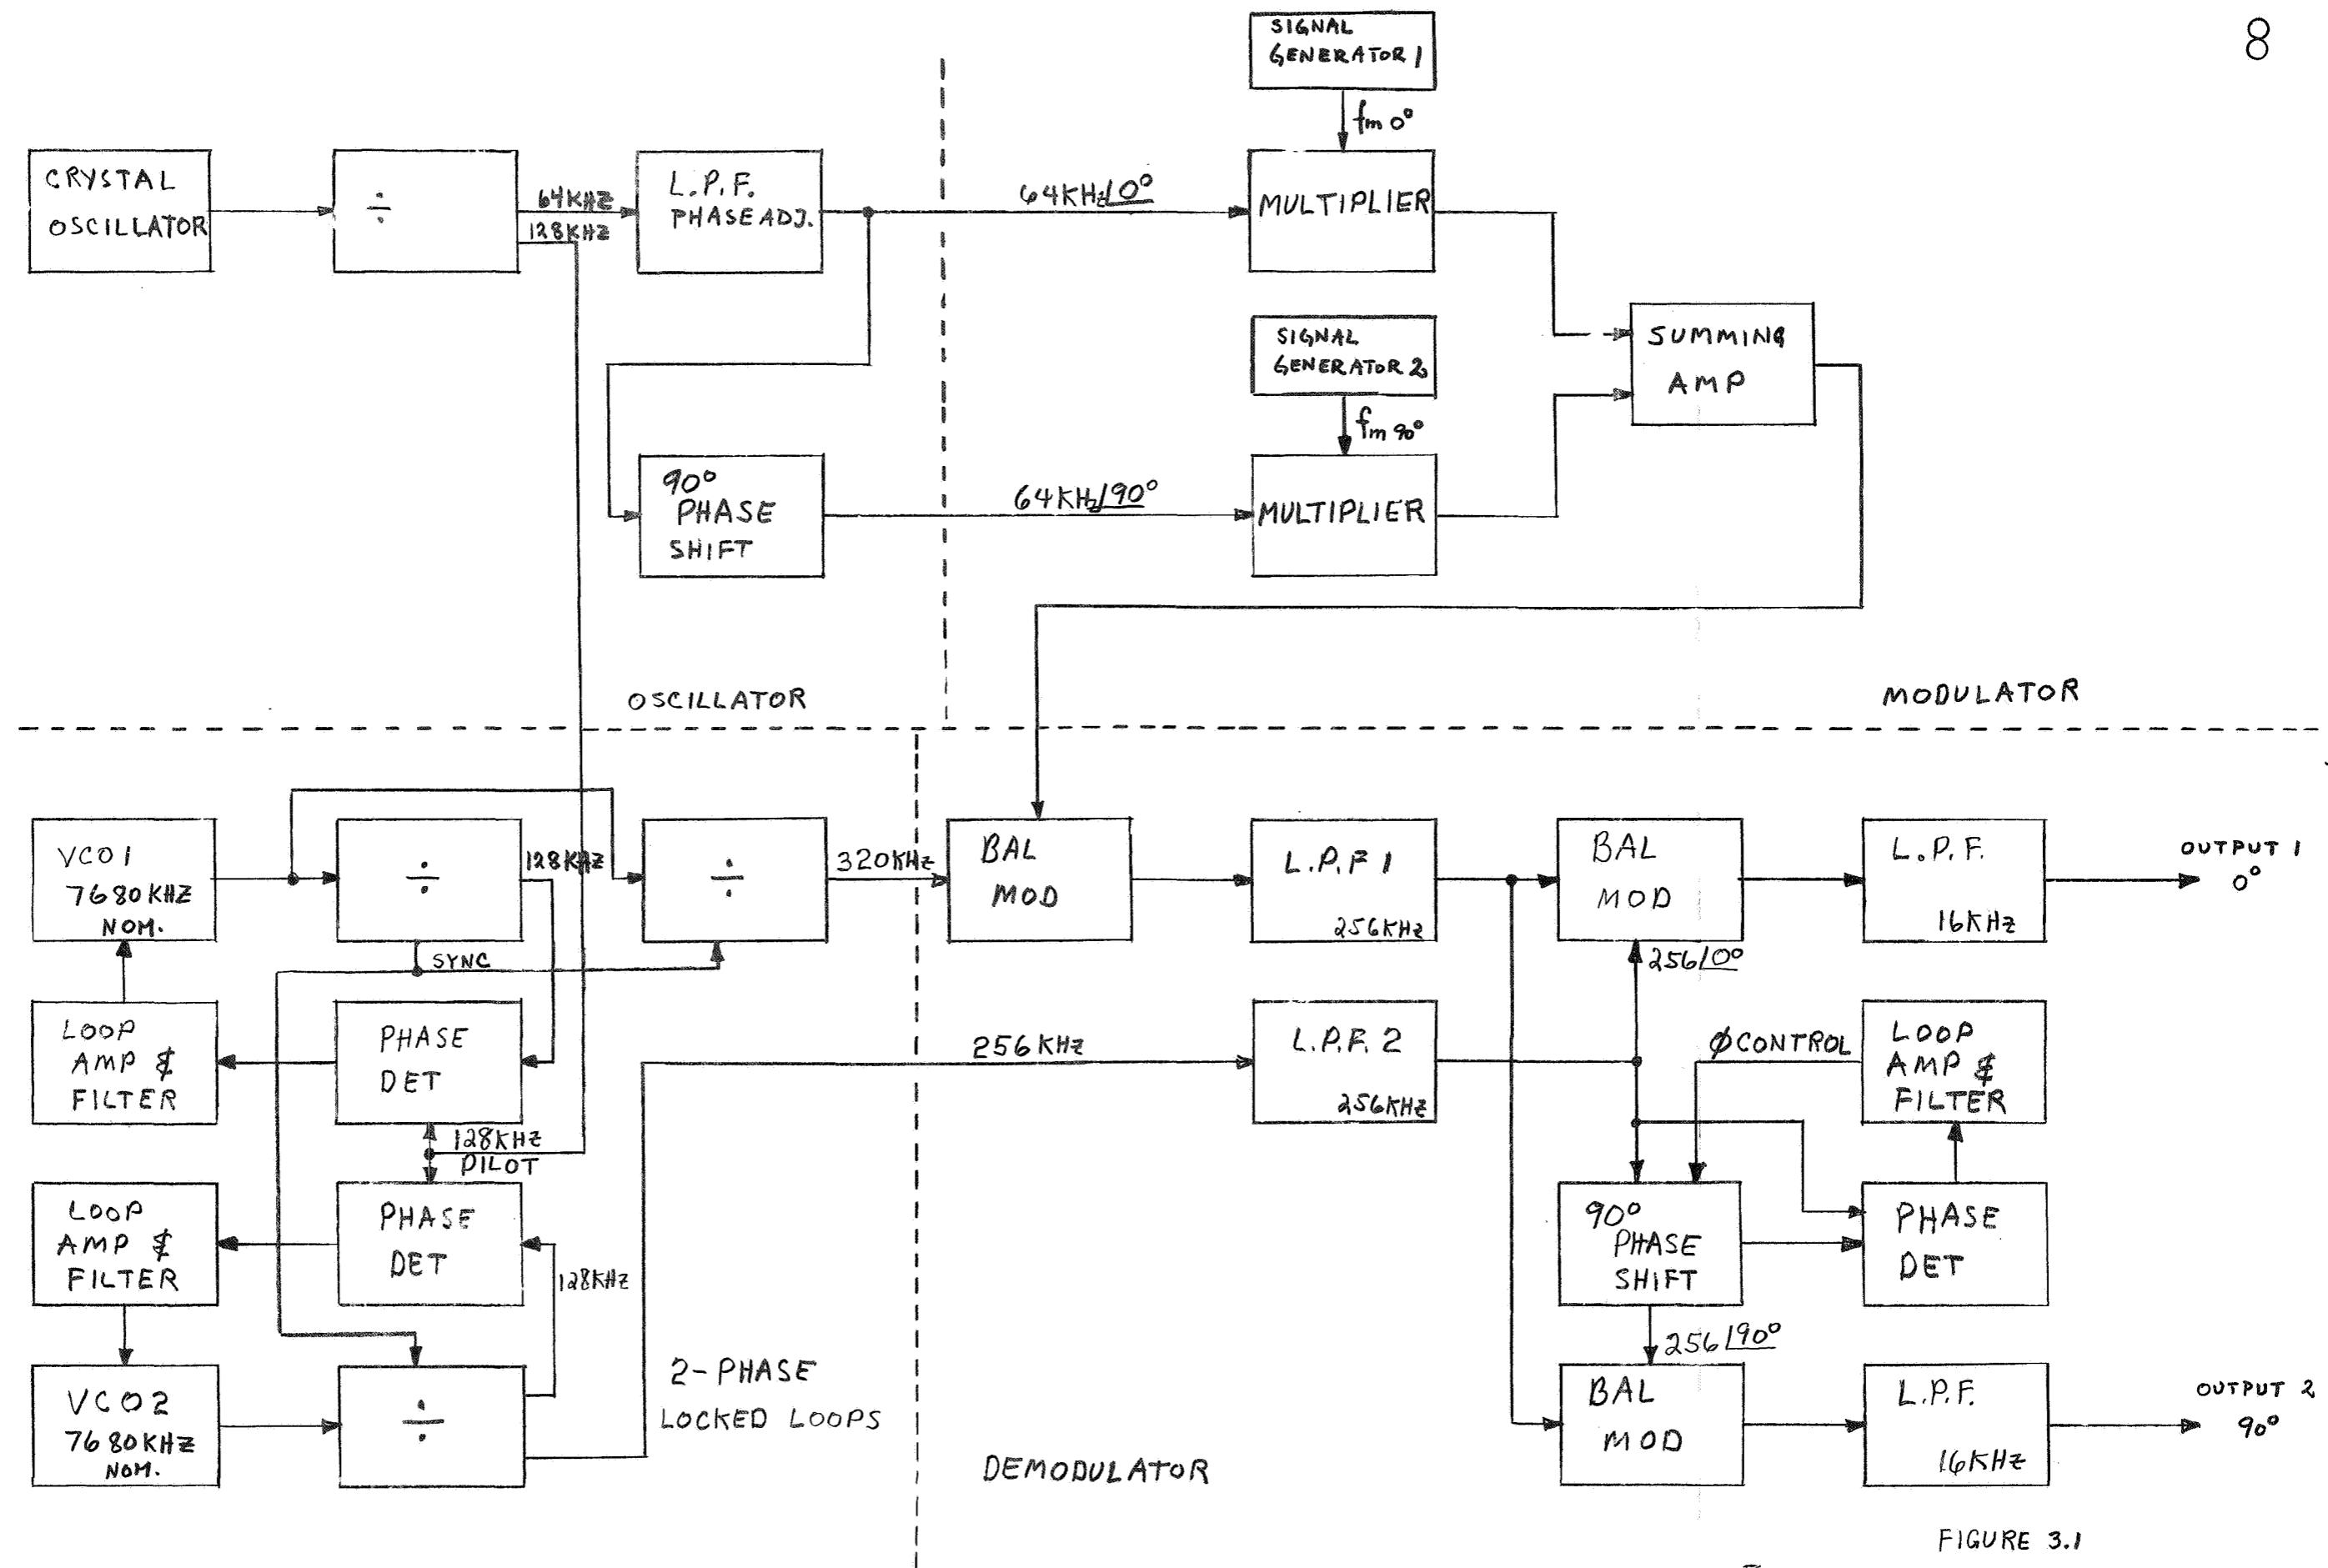

FIGURE 3.1
- A. Use test circuit shown in Figure 3.1 with channel frequency of 64 kHz and demodulation translation frequency of 256 kHz.